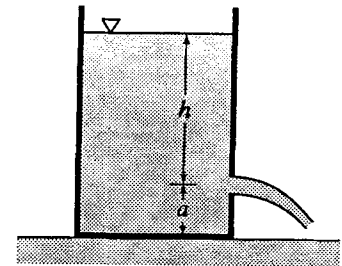

Figure P6.36
6.37 An ideal liquid ($\gamma = 9810$ N/m³) flows from a 400-mm-diameter tank as shown in Fig. P6.36. The jet diameter is 80 mm and $a = 250$ mm. If the static coefficient of friction between the tank and floor is 0.6, determine the minimum value of h at which the tank will start to move to the left. The tank itself weighs 500 N.